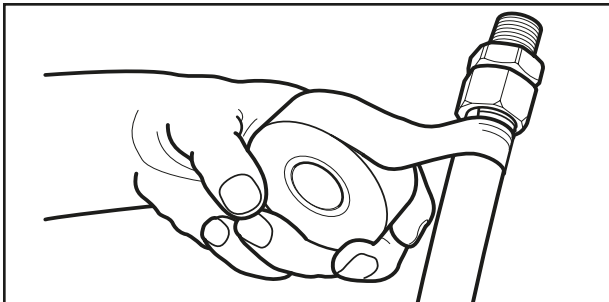

Figure: 4-5 Wrapping with self bonding silicone tape - begin on jacket.
- When installed outdoors, the plastic jacketing shall remain intact as much as practical for the given installation. Any portions of exposed stainless steel shall be wrapped with self bonding silicone tape sealing the fitting connection to prevent later corrosive attack by acid wash or chloride based compounds. (See Figures: 4-5 and 4-6).
- When **TracPipe**® is installed in a swimming pool mechanical room or exposed to a corrosive environment which may be harmful to the tubing, all exposed portions of the stainless steel tubing shall be wrapped with self-bonding tape. (See Figures: 4-5 and 4-6).